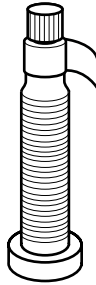

Figure 46. Wrap four layers of plumbers tape around.
2. Wrap four thin layers of Teflon plumber's tape around the end of the valve covering both the narrow threads and a small portion of the wider body. Warning: Do not cover the air opening at the end of the valve (Figure 46).